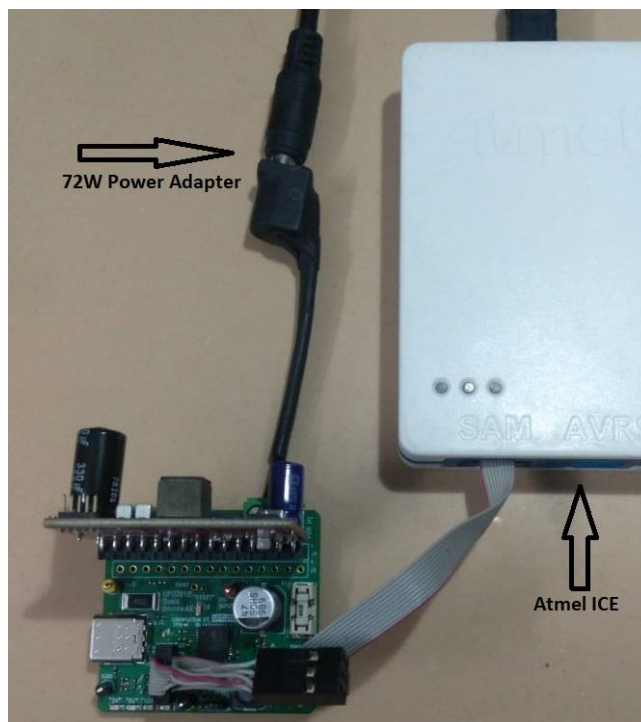

Figure 5.3 Basic Source Full Setup
4. Connect the power adapter as shown in the figure 5.3.
5. The whole connection looks as in the below figure 5.3